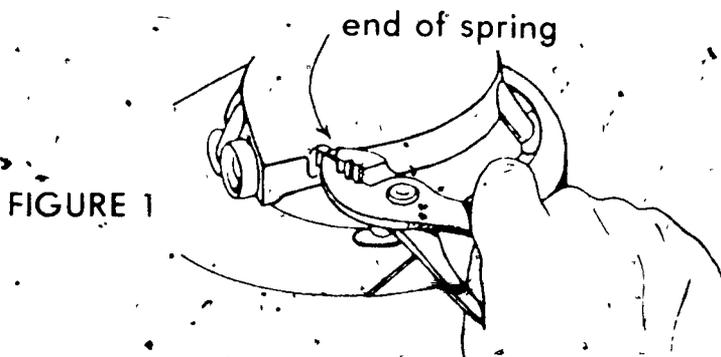

FIGURE 1
- C. Grasp outer end of starter spring with pliers and pull spring out of housing as far as possible (Figure 1)